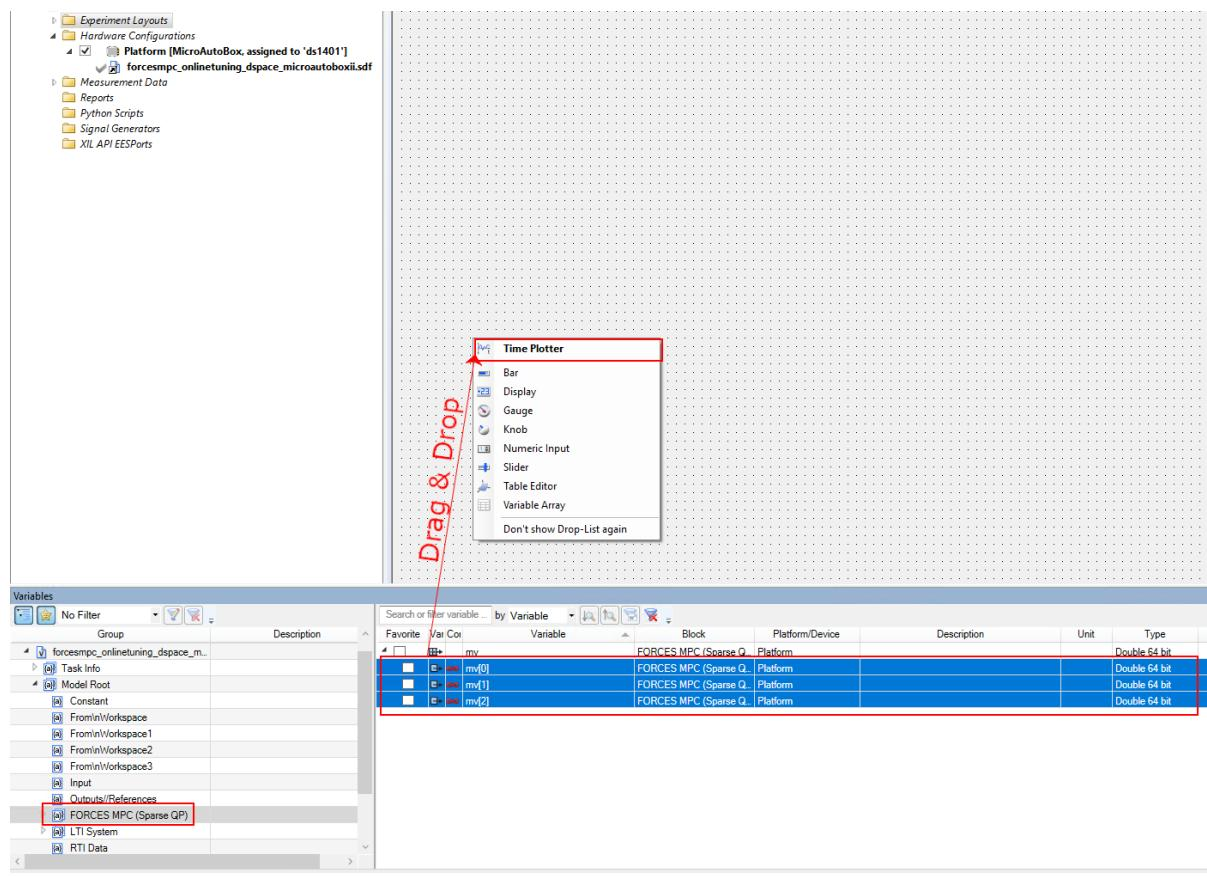

Figure 6.16: Add the variables as plots
- 12) Select FORCES MPC (Sparse QP) and Drag & Drop all the output variables together to the Layout. In the opened menu select Time Plotter (see Figure 6.16).